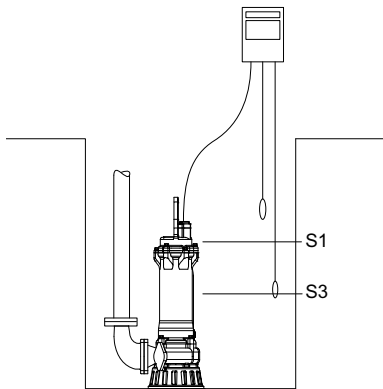

Fig. 1 Liquid level
- intermittent operation, S3, with the pump partly submerged. See fig. 1.